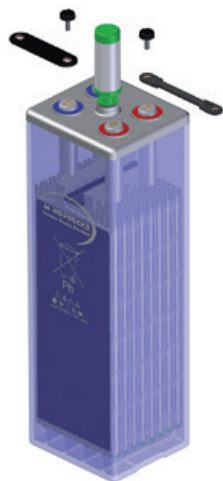

Fig. 5-17: Screwed connector installation
1. The batteries are connected using the insulated row connectors (Fig. 5-17). When establishing the serial connection, the batteries are arranged so that the negative terminal of one battery is connected to the positive terminal of the next battery until the entire system has reached the necessary voltage.